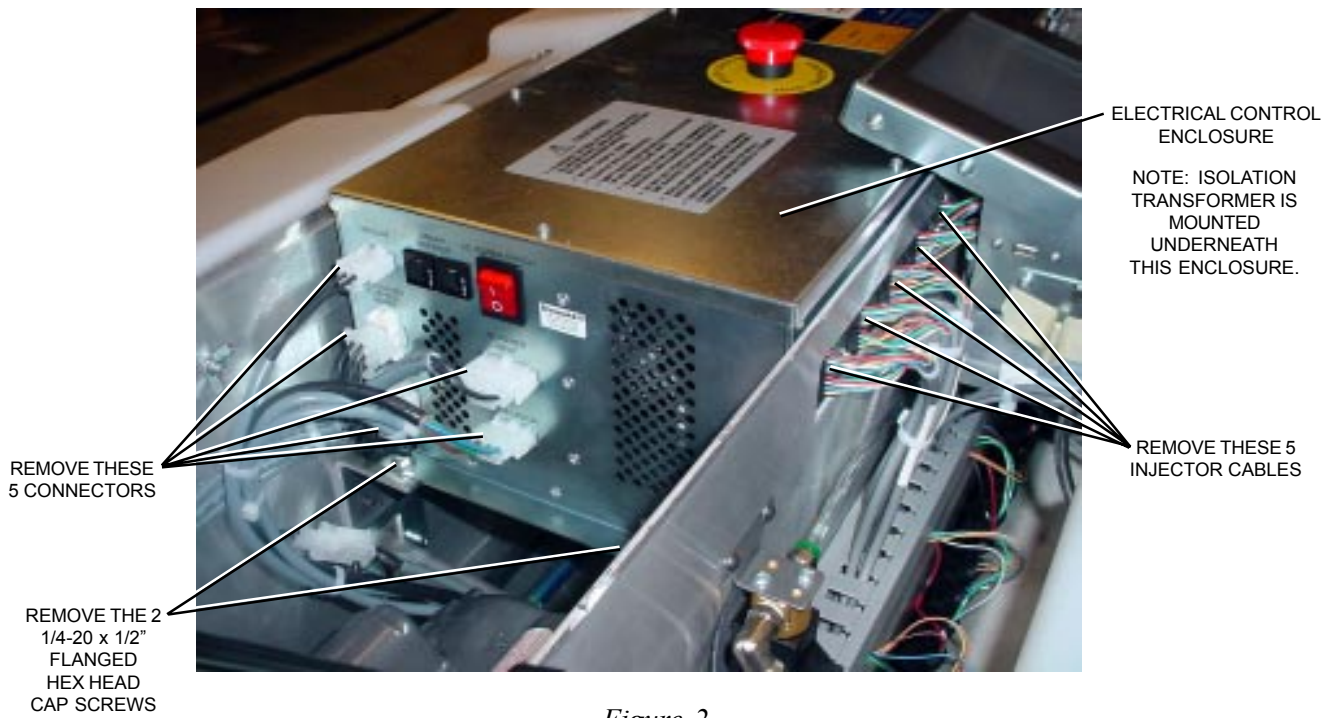
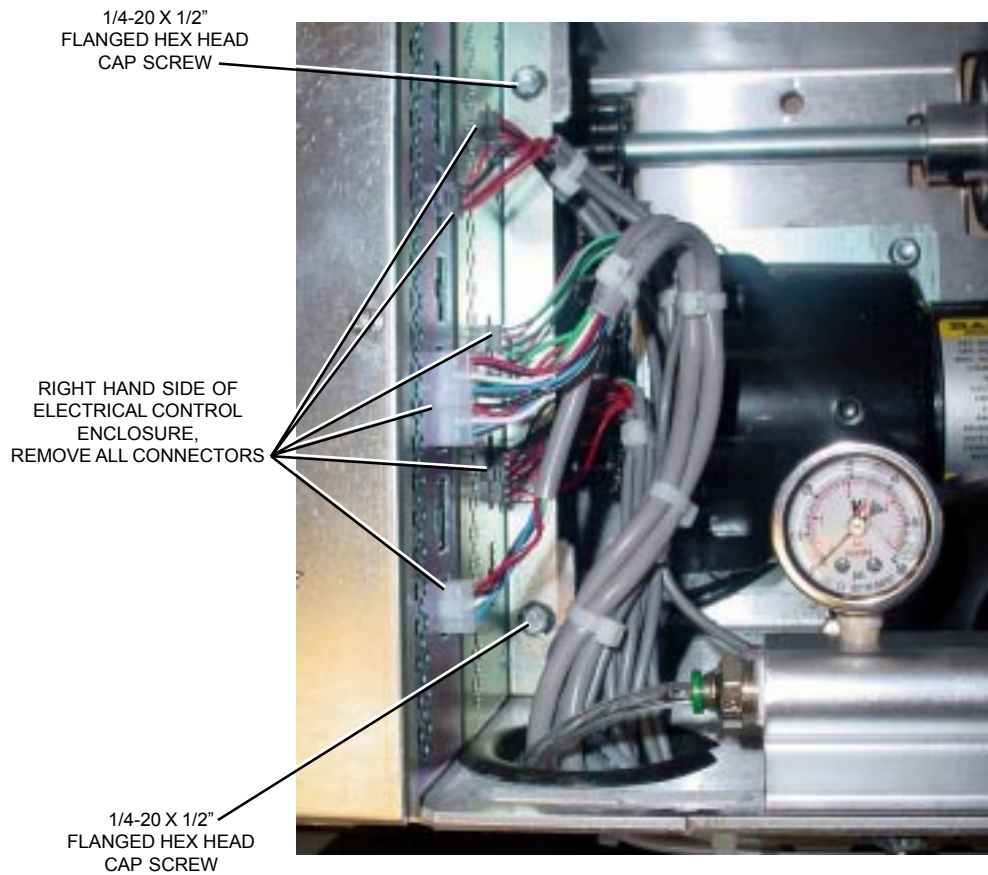

Figure 2
Figure 3
2. Remove all the connector plugs on the left and right hand side of the Electronic Control Enclosure. Remove the five Injector Cable Connectors next to where the GUI mounts. Refer to *Figure 2* for the left hand side and *Figure 3* for the right hand side of the Electrical Control Enclosure.
3. Using a 3/8" socket and 3/8" drive with extension, remove the four 1/4-20 x 1/2" long flanged hex head cap screws mounting the Electrical Control Enclosure to the mounting brackets. Retain the screws for future use. Refer to *Figures 2 and 3*.